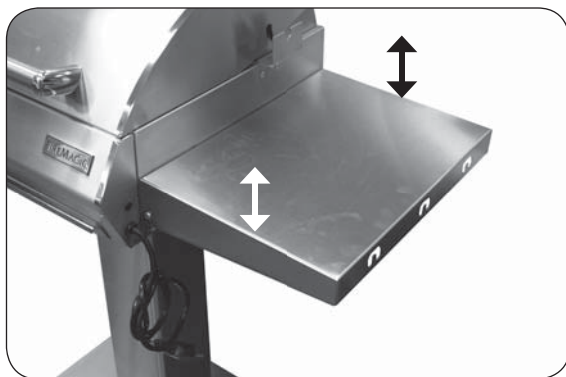

Fig. 18-1 Shelf up and locked
1. To lower the shelf, grab the middle of the shelf on both sides and lift upward (see Fig. 18-1). Then allow the end of the shelf to rotate down as pictured in Fig. 18-2 and Fig. 18-3.